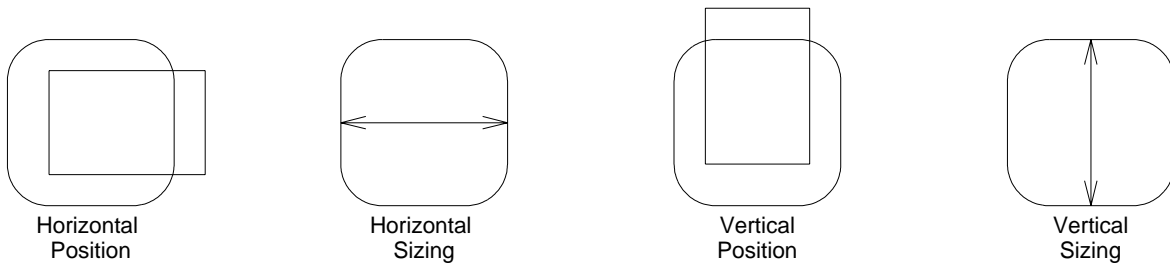

Figure 2, Monitor Adjustment Symbols
50. Using the **Select “+”** or **“-”** buttons on the front of the monitor, highlight **Horizontal Position** symbol, as shown in figure 2 below.